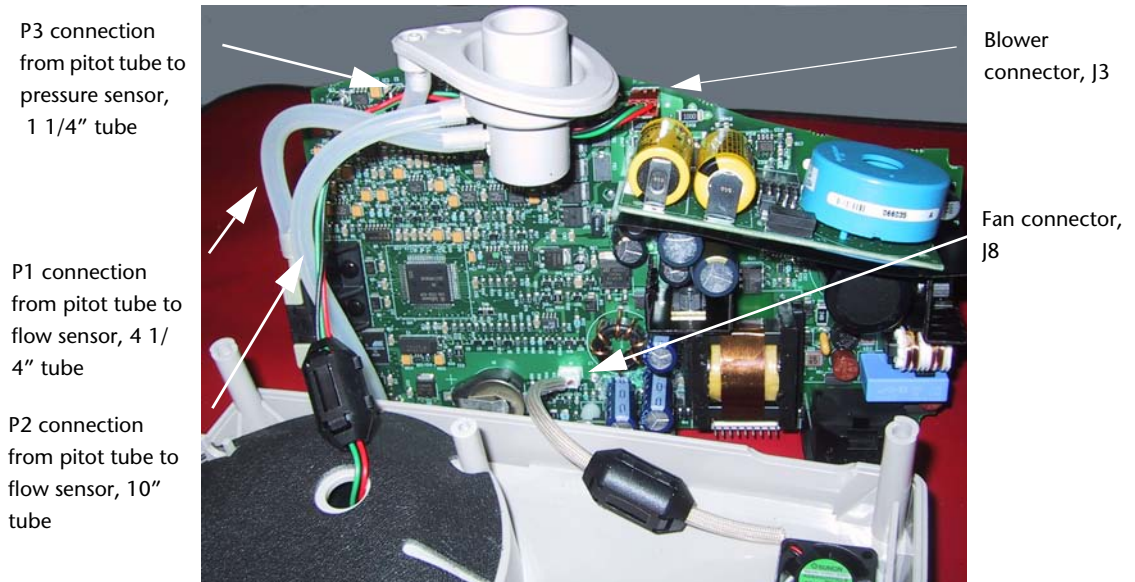

Figure 5-8. Blower, fan, and tubing connections
- 4 Lift the Main PCBA off of the chassis supports and tilt it towards the back of the lower enclosure, following the precautions for the RS-232 PCBA, if applicable (Figure 5-8).
- 5 Disconnect the blower assembly (ITEM 7) wiring harness from the J3 connector on the Main PCBA (Figure 5-8).
- 6 Disconnect the fan assembly (ITEM 19) wiring harness from the J8 connector on the Main PCBA (Figure 5-8).